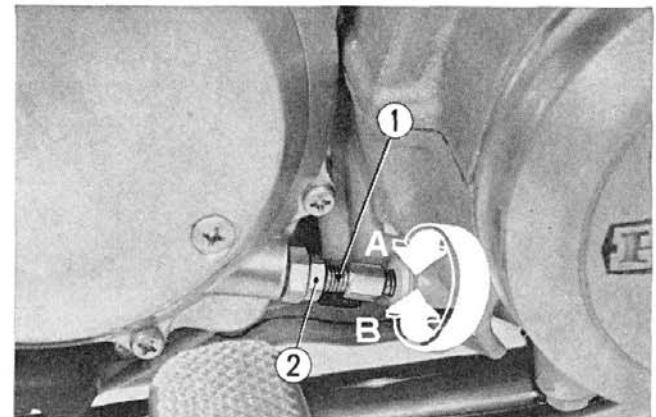

Fig. 19-12 ① Clutch cable adjusting bolt
- b. Turn the clutch cable adjusting bolt located at the clutch housing, in the direction ① to loosen the clutch cable. (Fig. 19-12)
- d. Turn the clutch cable adjusting bolt located at the clutch housing lower right side of the engine in the ② direction so that there is approximately  $3/4$  of free play at the clutch lever; then tighten the lock nut. (Fig. 19-12)
- (3) The nominal clutch lever free play is 0.4–1.0 in (10–25 mm) measured at lever end before the clutch starts to disengage.